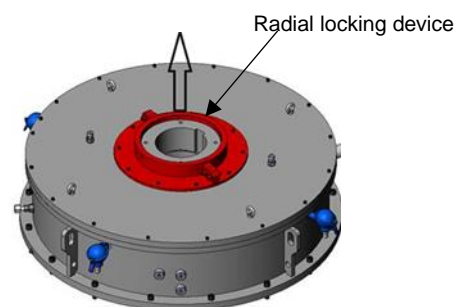

Figure4.2: Radial locking device
3. Remove the locking device as show in Figure4.2 ;